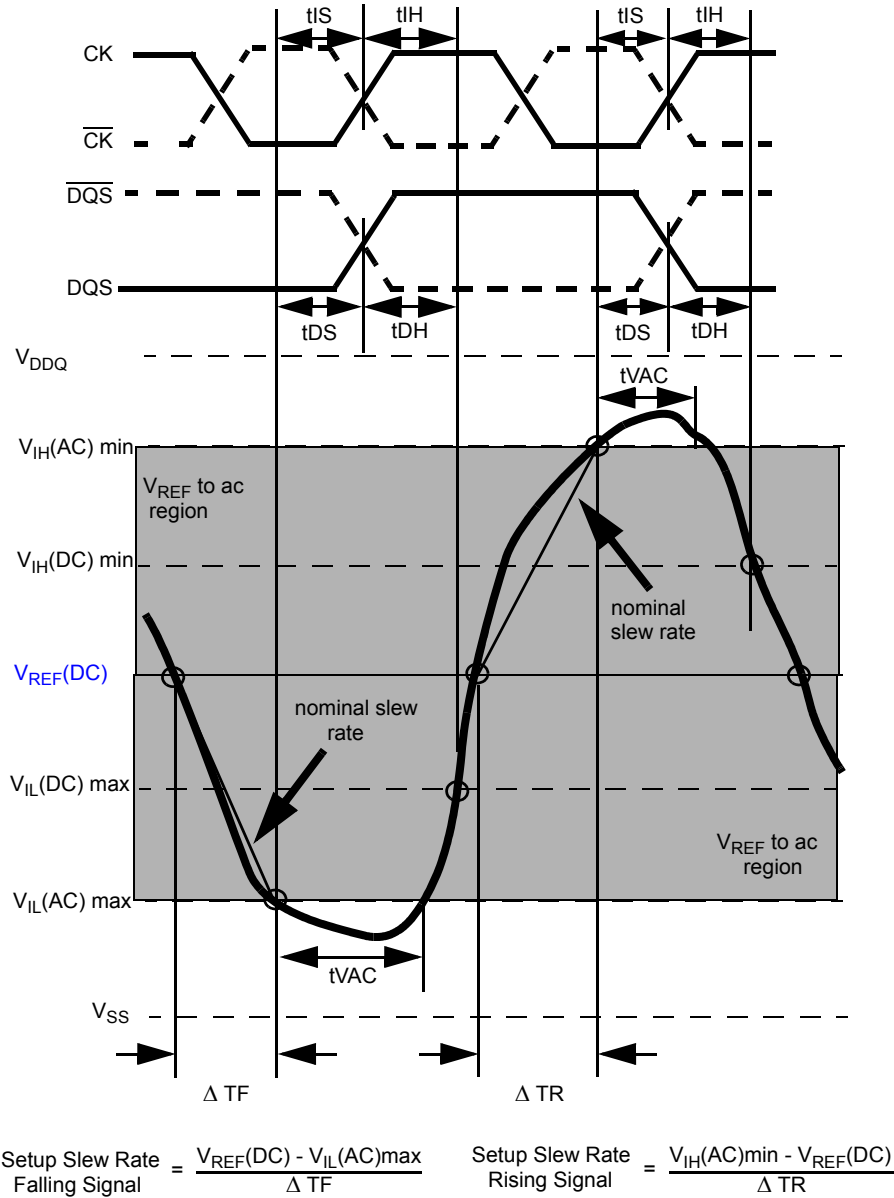
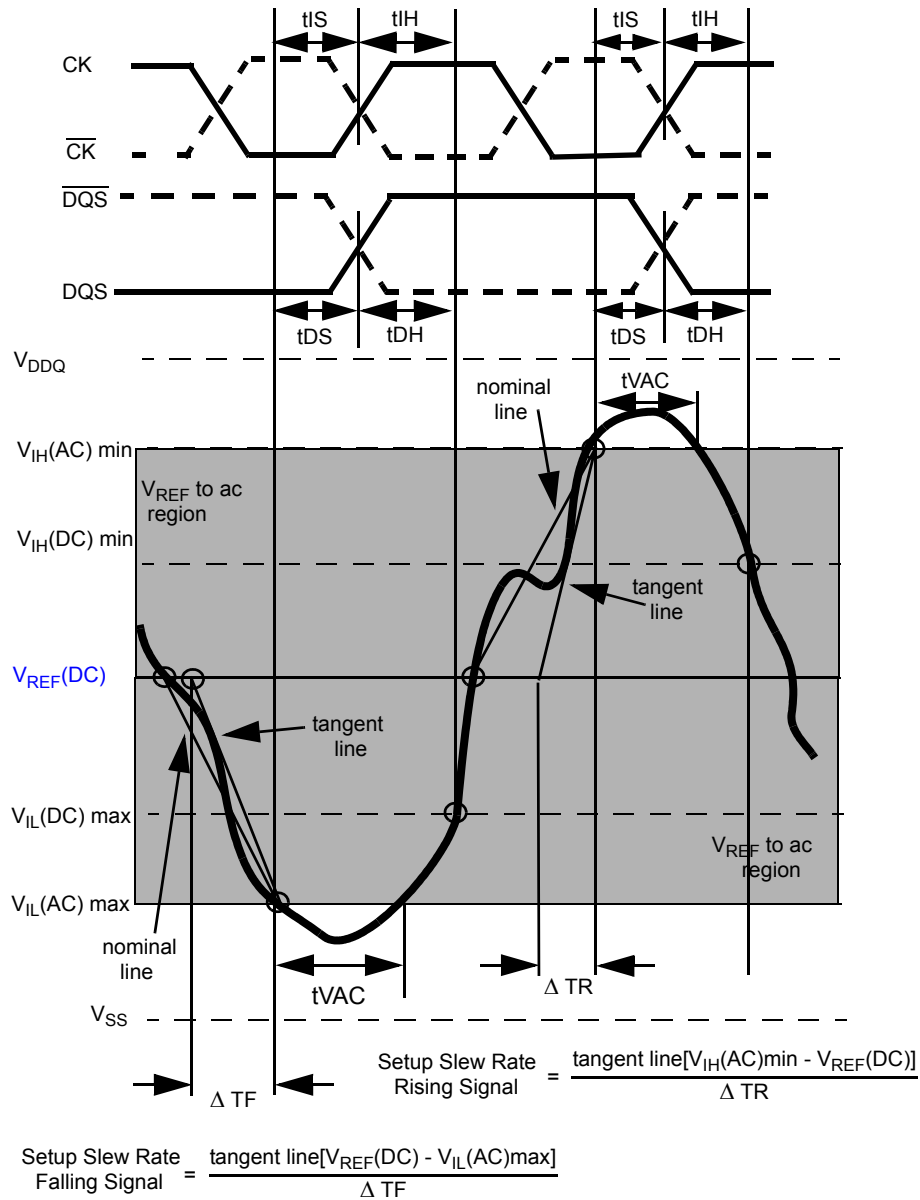

Figure 21. Illustration of nominal slew rate and tVAC for setup time tDS (for DQ with respect to strobe) and tIS (for ADD/CMD with respect to clock).
Figure 23. Illustration of tangent line for setup time  $t_{DS}$  (for DQ with respect to strobe) and  $t_{IS}$  (for ADD/CMD with respect to clock)
Example: tIS (total setup time) = tIS(base) + ΔtIS Setup (tIS) nominal slew rate for a rising signal is defined as the slew rate between the last crossing of VREF(DC) and the first crossing of VIH(AC)min. Setup (tIS) nominal slew rate for a falling signal is defined as the slew rate between the last crossing of VREF(DC) and the first crossing of VIL(AC)max. If the actual signal is always earlier than the nominal slew rate line between shaded 'VREF(DC) to ac region', use nominal slew rate for derating value (see Figure 21). If the actual signal is later than the nominal slew rate line anywhere between shaded 'VREF(DC) to ac region', the slew rate of a tangent line to the actual signal from the ac level to dc level is used for derating value (see Figure 23).